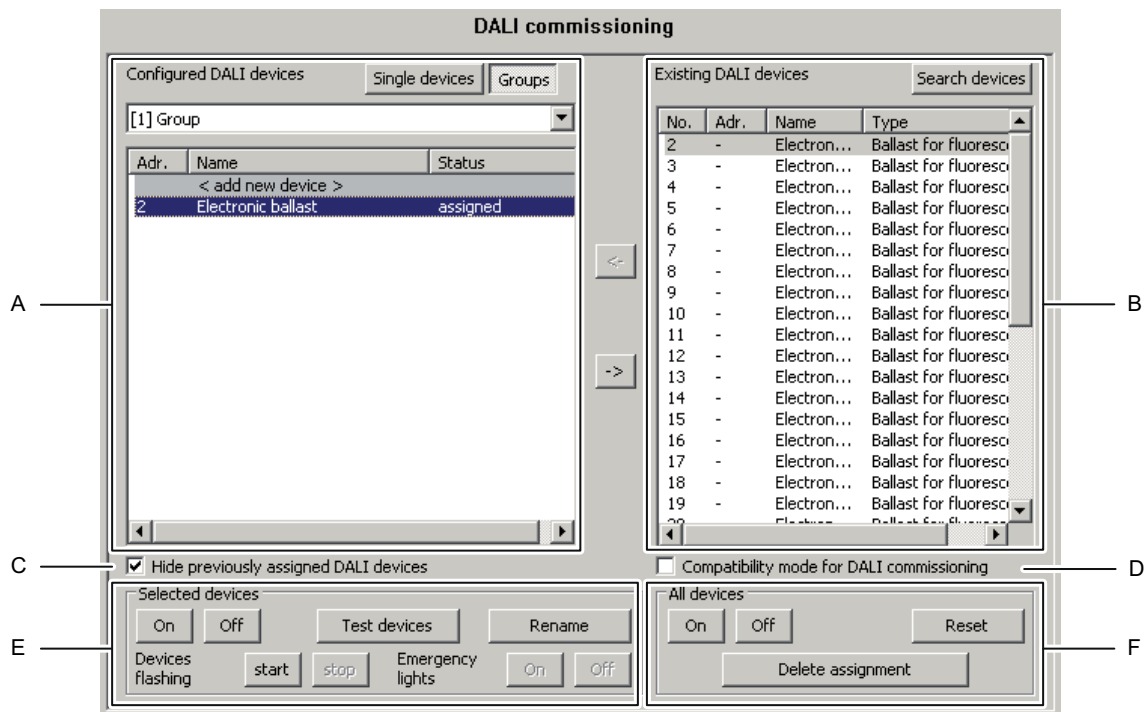

Figure 60: Panes of the commissioning environment
The commissioning environment of the plug-in is divided up into two panes. The right-hand pane lists the operating devices found in the DALI system. The left-hand pane displays the created groups. The assignment of the DALI devices to the programmed groups or single devices also takes place there (figure 60).
During initial commissioning, no DALI operating devices are displayed in the right-hand window area (B) (figure 60). To continue commissioning, the operating devices connected to the DALI cable must first be searched for. The DALI system must be fully connected and switched on without interruptions in order for the DALI Gateway to be able to find and identify all the connected DALI operating devices during the device search. In addition, the mains voltage supply of the DALI Gateway must be switched on.
For special cases, it is possible to assign operating devices for group control to more than just one DALI group. In the standard case, assignment of a DALI operating device is only possible in one device. This makes device assignment clear, and the unique assignment means that there are no group overlaps and, as a result, no influencing of configuration and feedback values. If necessary, multiple group assignment can be enabled as an alternative. To do this, the checkbox "Hide previously assigned DALI devices" (C) must be deselected in the Commissioning dialog of the plug-in (figure 60). This means that it is then possible to assign DALI operating devices to more than just one group during online commissioning.
The DALI Gateway has a compatibility mode for supporting non-DALI-conformant operating devices. This means that the commissioning process becomes distinctly more tolerant towards specific DALI commissioning parameters, which means that operating devices not fully compliant with the DALI specification can be commissioned, possibly subject to functional restrictions. Compatibility mode relates solely to DALI commissioning and explicitly to the operation to search for devices. Compatibility mode is activated when the checkbox "Compatibility mode for DALI commissioning" (D) is selected in the DALI commissioning window of the ETS plug-in (figure 60).